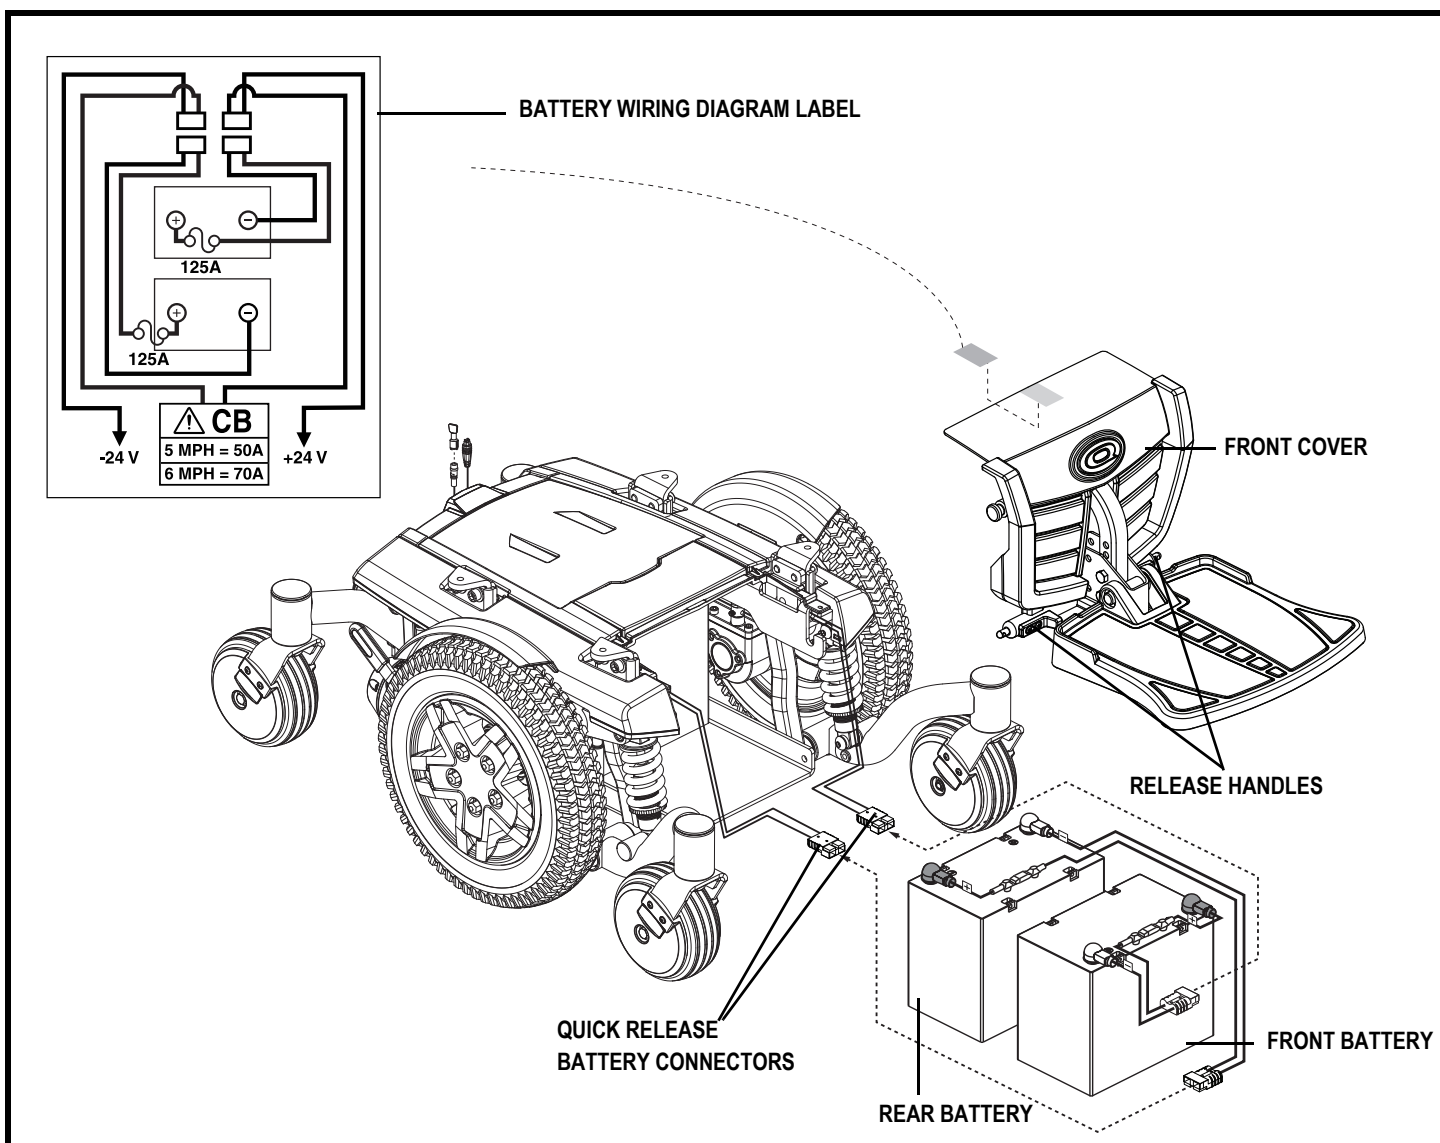

Figure 26. Battery Installation
3. Remove the front cover by squeezing the release handles (see figure 26) and lifting the foot platform bracket up and away from the power base.
7. Connect the battery harness to the new front battery according to the battery wiring diagram. See figure 26.
8. Connect the battery harness to the new rear battery according to the battery wiring diagram. See figure 26.